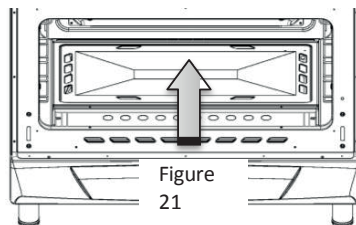

Figure 21
- Lift up the burner housing sheet first in direction of arrow and then upward towards the inside of the boiler and pull towards you to take the sheet out of its place (figure 21)